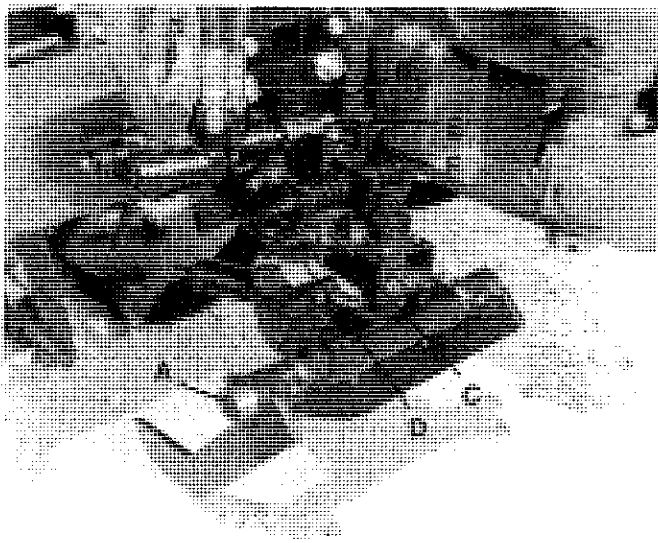

FIGURE 61 - CONTROL VALVE CENTERING
The horizontal shaft (A) in row finder must be parallel with the front of the harvester frame to function accurately. Remove pin (B) and loosen nuts (C) slide plate (D) until shaft is parallel with frame. Tighten nuts (see figure 61).